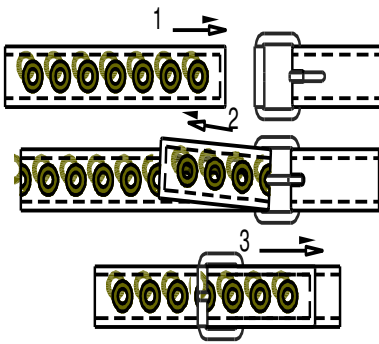

Fig. 3
- a. If tongue buckle style: fasten in the same manner as you would fasten an ordinary belt buckle (see Fig 3).
- a. If tongue buckle style: fasten in the same manner as in figure 3.